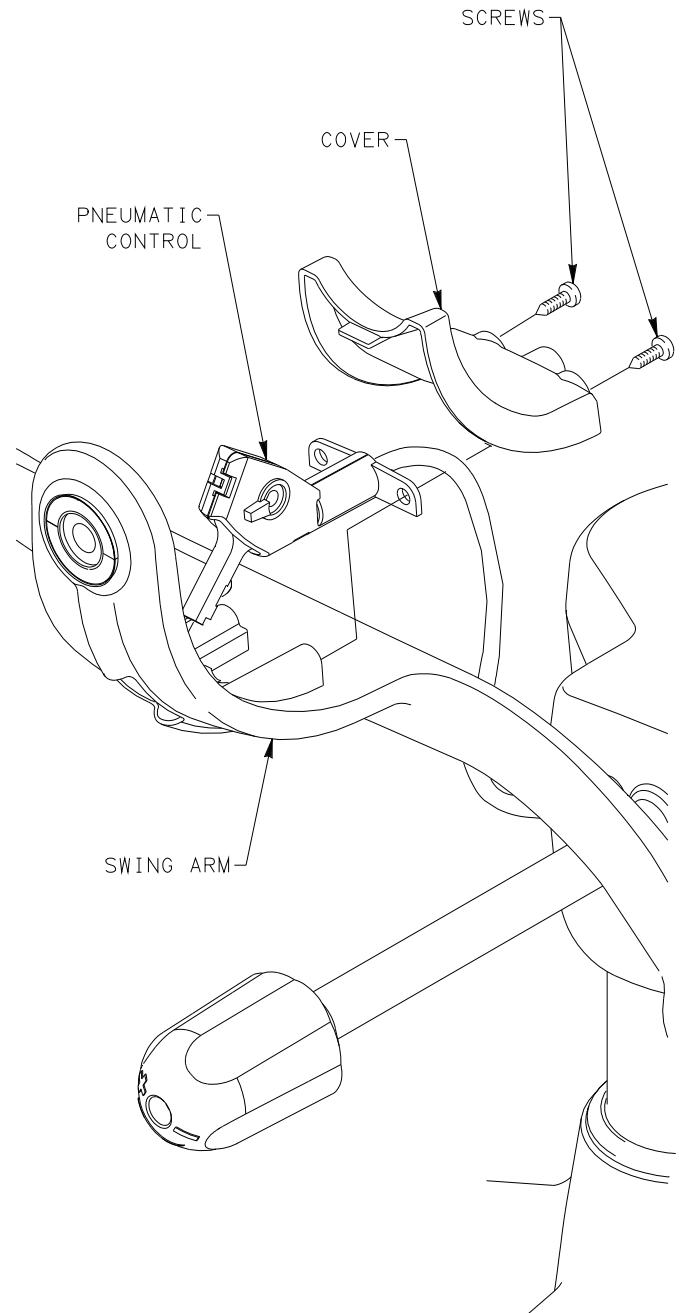

FIGURE 2
7. INSTALL PNEUMATIC CONTROL TO SWING ARM. WHILE KEEPING HAND PRESSURE ON PNEUMATIC CONTROL, INSTALL COVER AND SECURE WITH (2) SCREWS. SEE FIGURE 2.